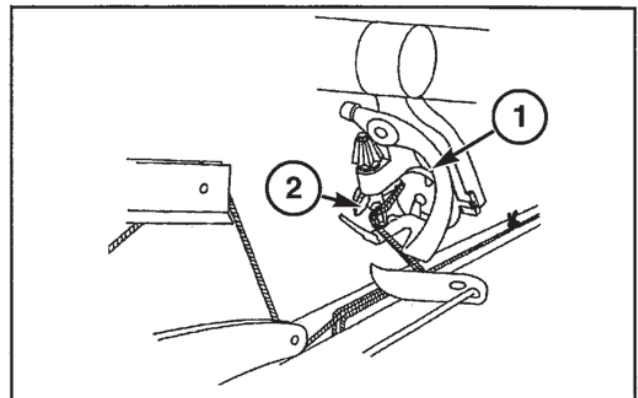

FIG. 11
FIG: 11: The twine disc (1), which is holding the loose ends of both twines, starts to rotate down. The billhook (2) starts turning for the second rotation, picking up the two twines.